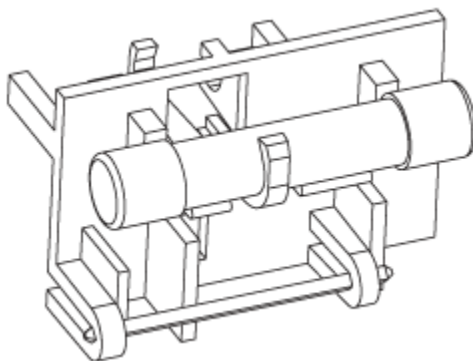
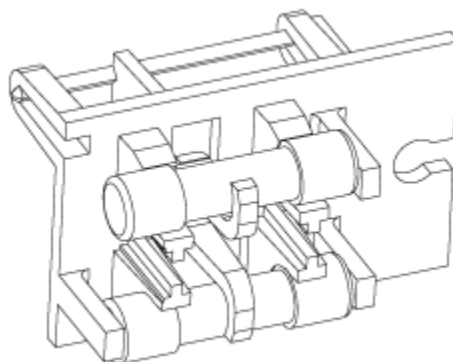

Figure 2-6: 100/120 Voltage Fuse Arrangement
Figure 2-7: 230/240 Voltage Fuse Arrangement
7. Install one (1) AG fuse or two (2) metric fuses (see Figure 2-6 and Figure 2-7).